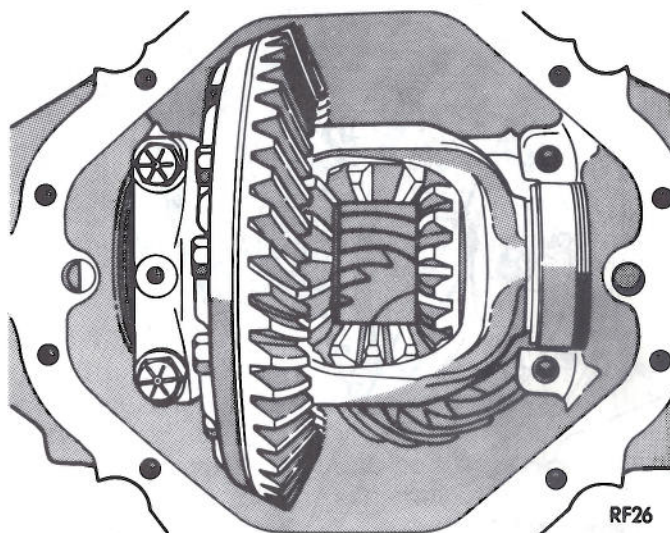

Fig. 13—Axle with One Bearing Cap Removed (Typical)
(15) Place one hand on differential assembly to hold it in position. Using **extreme caution** remove bearing caps, adjusters and differential assembly (Fig. 13). Differential bearing cups must be kept with their respective bearing cones. On 8-1/4 inch axles the threaded adjusters must also be kept with their respective bearings. On 7-1/4 inch axles the adjusters will remain in the housing.